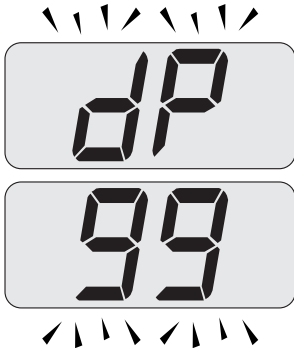

Fig. 9.14
- Press further key 11 to vary again the output in chimney sweep mode: when the LCD display displays the letters **DP** that alternate with the heating water temperature value (e.g. **99**), the "chimney sweep function" is at maximum output (Fig. 9.14);